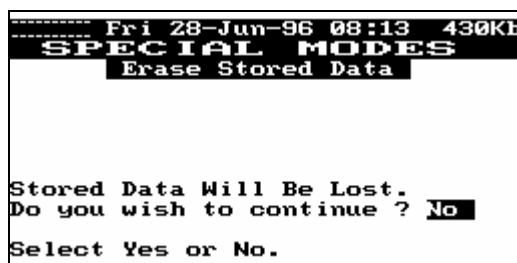

Figure 27
**SM15** Select "**2--Erase Stored Data**" and press **[ENTER]**. The screen in figure 27 below will be displayed. The answer field automatically defaults to **No** to prevent you from accidentally erasing stored data. If you do not wish to continue with the Erase Stored Data function, make sure the **No** is displayed in the answer field and press **[ENTER]**. The screen will return to the "Manage Data" menu screen. If you do want to erase ALL stored data, press any **[ARROW]** key to toggle the answer field to **Yes** and press **[ENTER]**. All stored data will be erased from memory and the screen will return to the "Manage Data" menu screen. Stored Data is the actual information collected by the analyzer and placed into memory. This does not include procedures loaded into memory from a procedure card. Procedures cannot be erased or removed by the "Erase Stored Data" option. See **SM14** above to Remove a Function.